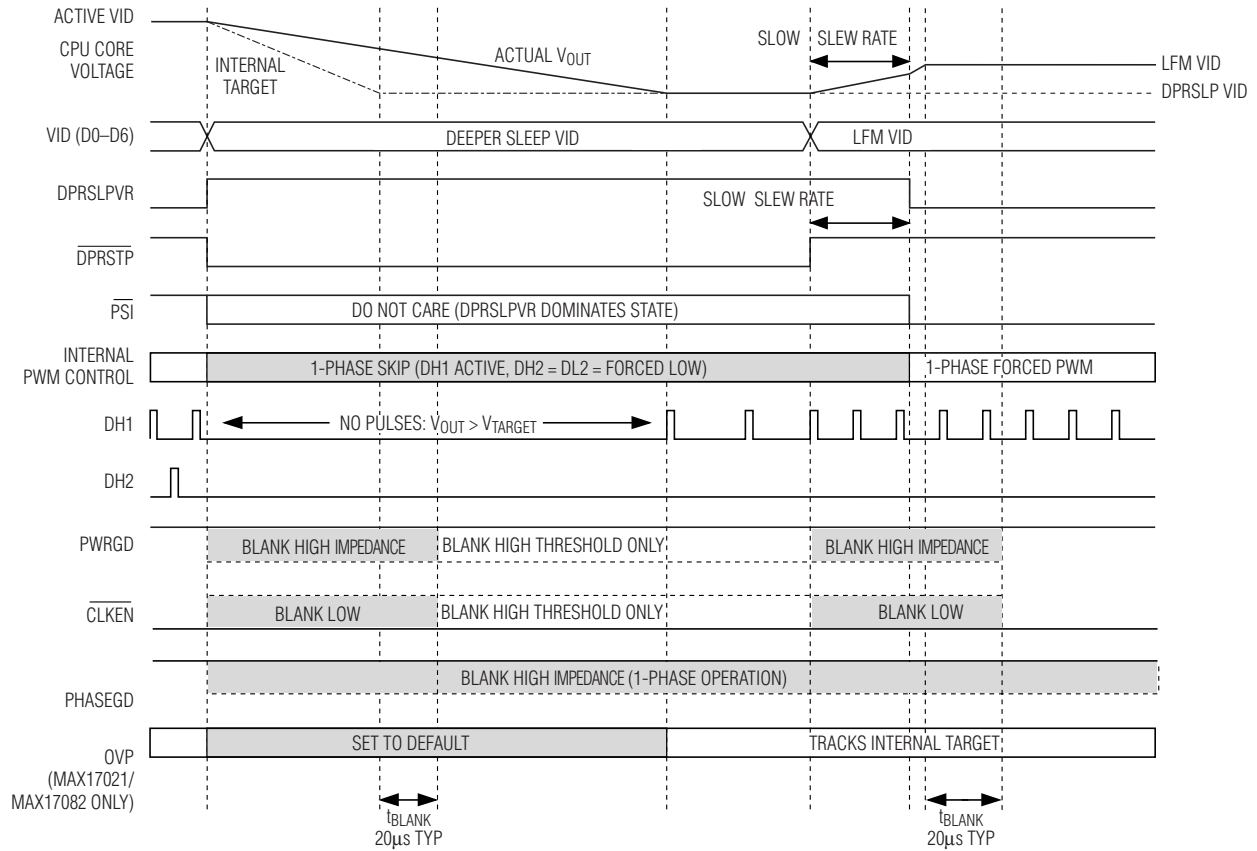

Figure 7. Slow C4 Transition
- IMVP-6+ Slow C4 Deeper Sleep Exit:** When exiting deeper sleep (DPRSLPVR high, DPRSTP pulled high) while the output voltage is regulating to the deeper sleep voltage, the MAX17021 remains in 1-phase skip mode and ramps the output voltage to the LFM DAC code provided by the processor at 1/4 the slew rate set by R_{TIME}. The controller blanks PWRGD, PHASEGD, and CLKEN until 20μs after the transition is completed. See Figure 7.